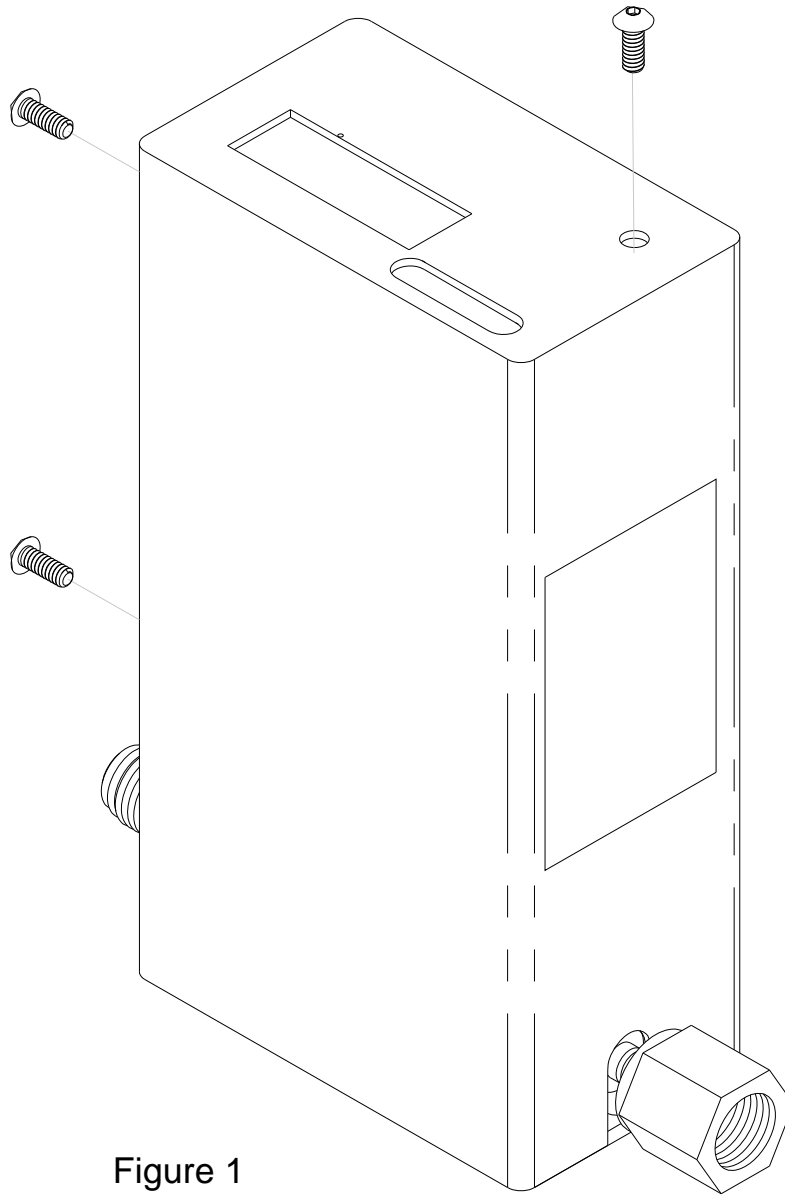

Figure 1
3. Remove Three Screws shown in Figure 1.
16. Carefully slide the cover onto Instrument as shown in Figure 1. Be extremely careful that you do not catch any of the cables with the cover Tuck the cables "UP" first and then slide the cover down over them. If you feel any of the cables catch on the cover, remove the cover and ensure that all the cables are seated correctly.